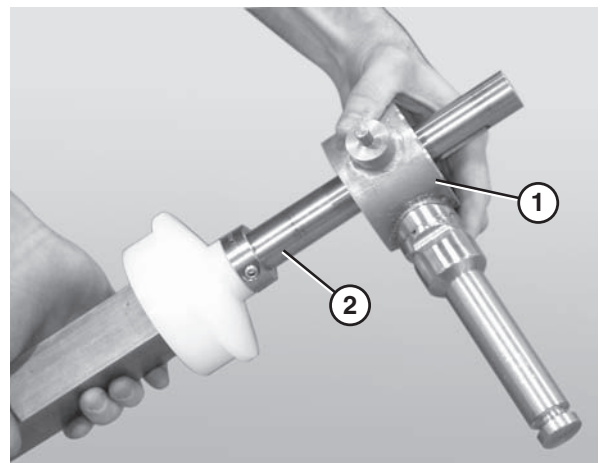

Figure 80
9. Slide the second bearing shaft assembly, or the motor mount bracket (**Figure 80, item 1**), onto the longer end of the drive spindle (**Figure 80, item 2**).